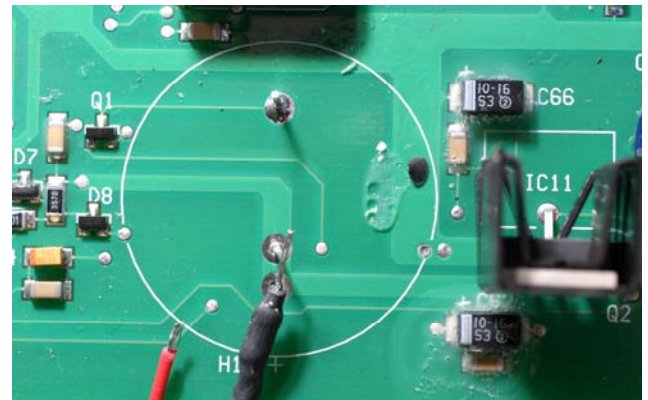

Figure 2: Solder the leads of the new device to the post revealed when the old unit is removed.
4. If sound reduction is desired, solder the provided resistor to one of the leads of the sound device. Solder the red wire of the new sound device to the post nearest the "+" sign. Solder the black wire to the other post. Use a soldering pencil of no more than 40 watts. See figure 2.